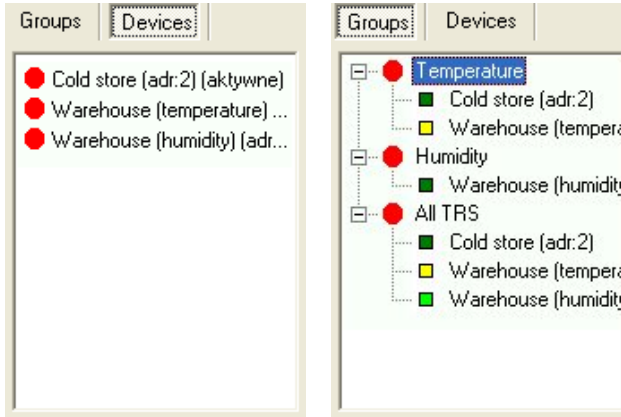

Figure 4.8. Single devices and Group of devices selection tabs.
- click appropriate tab **Groups** or **Devices** (Figure 4.8),